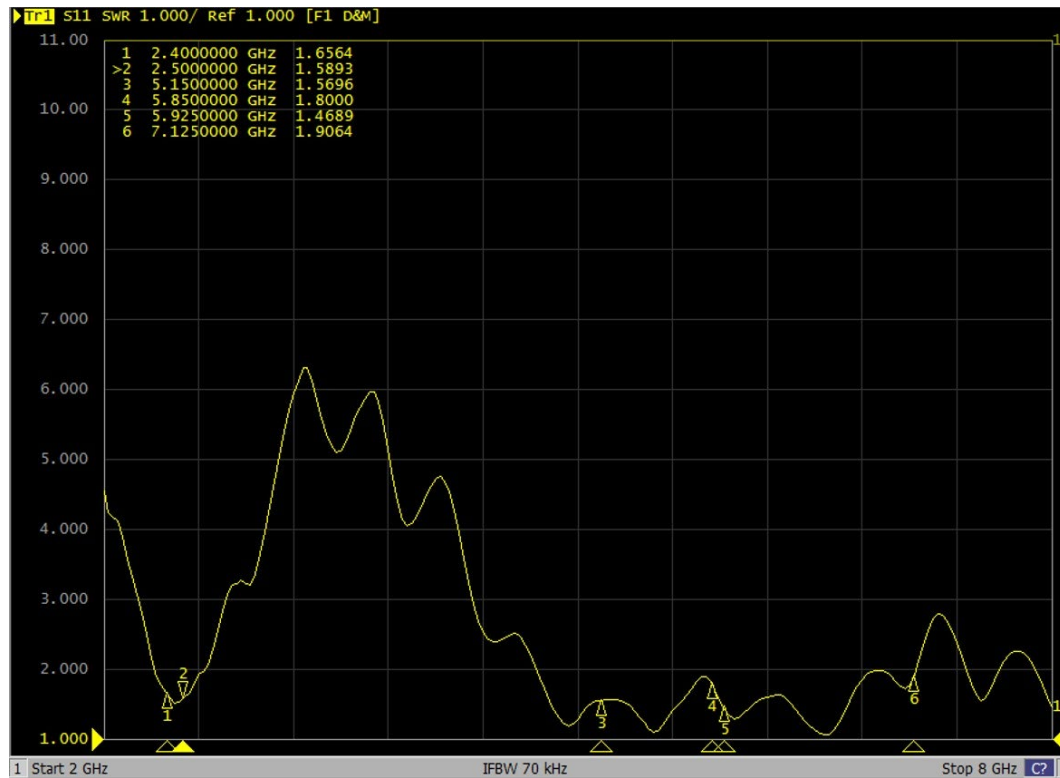

Figure. 4
- C. The measured results of the radiation patterns and antenna gain are obtained from the control system and showed on the monitor (see figure. 4).